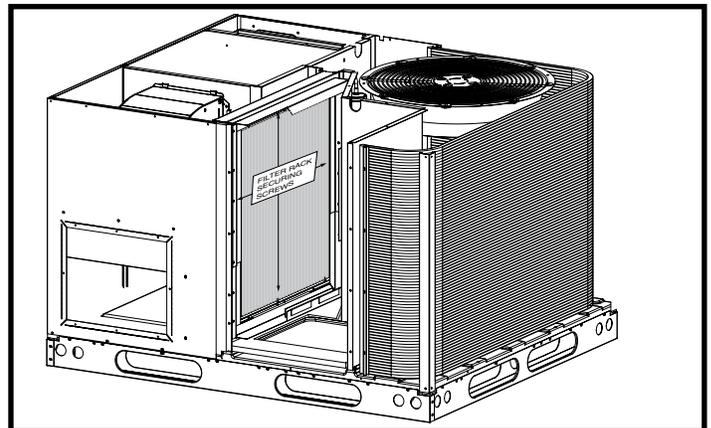

Figure 6. Internal Filter Rack Location
3. Remove (1) screw securing the assembly to the coil located on the left leg of the rack. **NOTE:** The assembly can now be easily collapsed and removed from the unit. See Figure 6 (page 10) for filter rack securing screw locations.